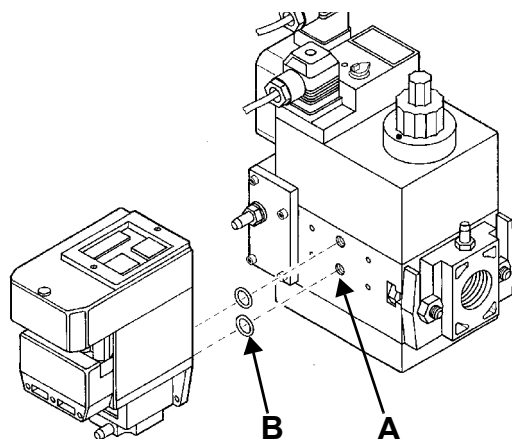
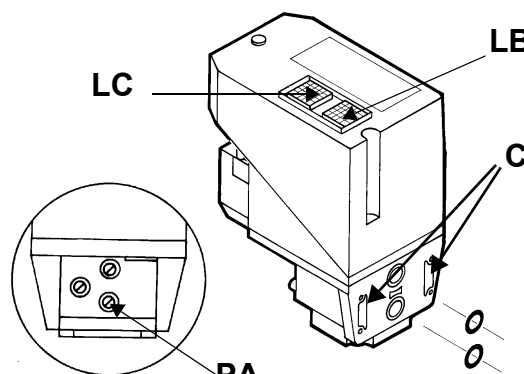

Fig. 15
Fig. 16
- 3 remove the Multibloc screw plugs (Fig. 15-A);
- 4 insert sealing rings (10,5 x 2,25) into VPS 504 (Fig. 15-B - Fig. 16)
- 5 Torque screws 3, 4, 5, 6 (M4 x16) Fig. 16-C
When wishing to monitor the test, install a pressure gauge ranged to that of the pressure supply point **PA** (Fig. 16). If the test cycle is satisfactory, after a few seconds the consent light **LC** (yellow) comes on. In the opposite case the lockout light **LB** (red) comes on. To restart it is necessary to reset the appliance by pressing the illuminated pushbutton **LB**.